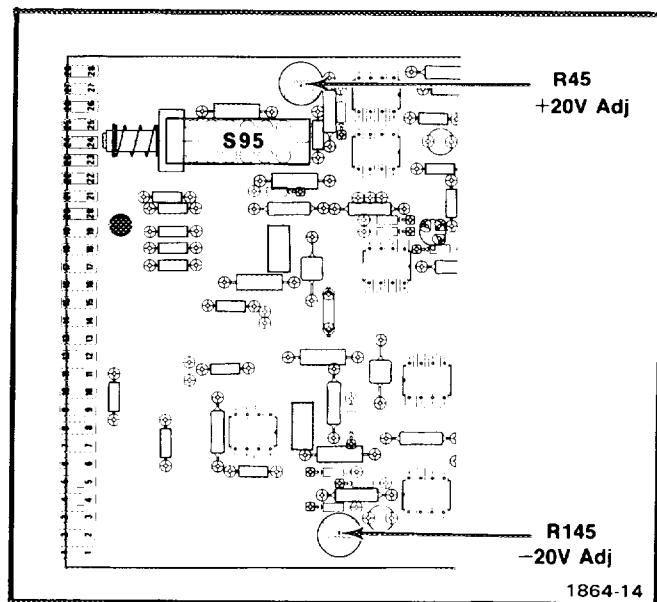

Fig. 3-1. Location of +20 V and -20 V adjustment.
b. Install the PS 503A into the far right (high power) power module compartment, or if appropriate, connect the PS 503A to the power module by means of the flexible plug-in extender. If a flexible extender is used, current limiting switch S95 must be engaged in the maximum current (HI) position. See Fig. 3-1 for switch location.
e. Adjust --R45, +20 Adj, for a meter reading of +20.2 volts, ± 0.1 volt. See Fig. 3-1 for adjustment location.
h. Adjust --R145, -20 Adj, for a meter reading of -20.2 volts, ± 0.1 volt. See Fig. 3-1 for adjustment location.